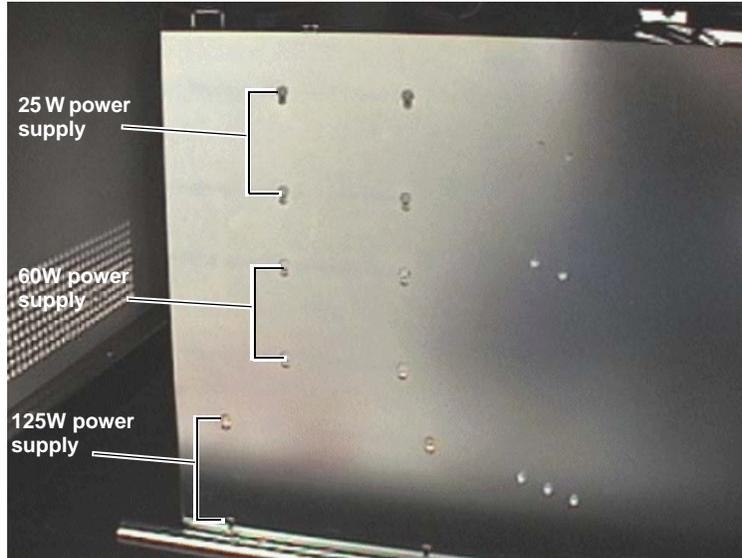

Figure 80. Power Supply Screws
6. On the left side of the electronics drawer, loosen four screws on the power supply to replace (see Figure 80).